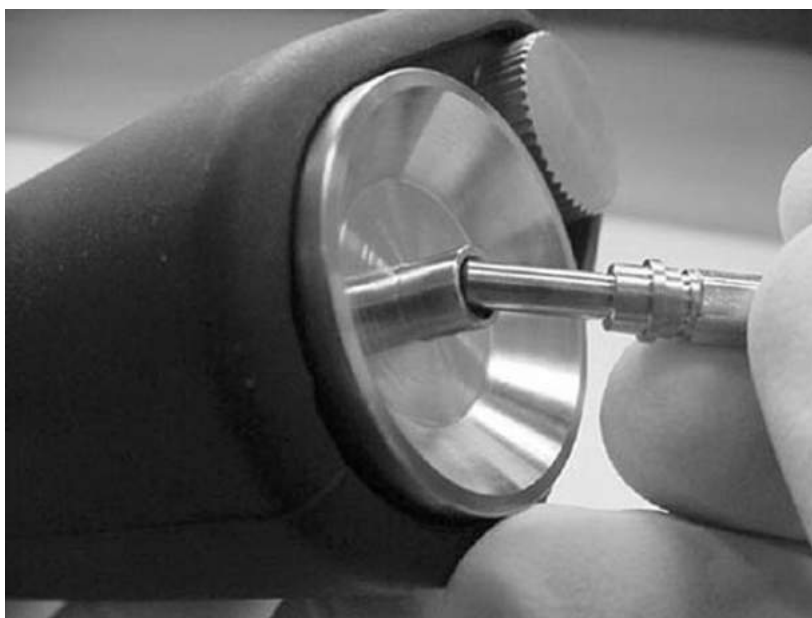

Figure 5.1-7. SMA Adapter
1. Tilt the fiber as shown in Figure 5.1-7 and gently slide it into the adapter.